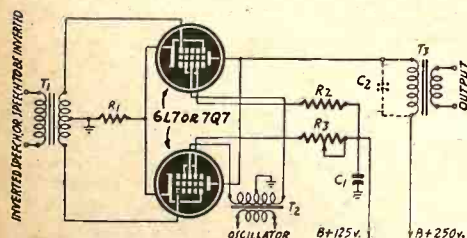
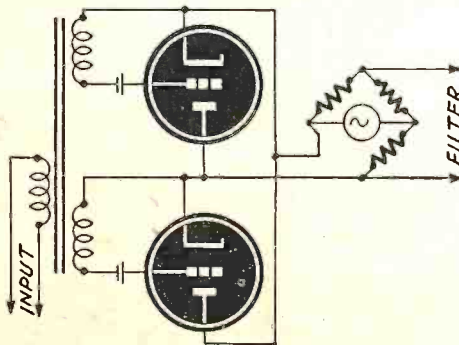

Fig. 1—A practical speech inverter circuit.
Fig. 2—A resistance-bridge type modulator.
The directivity in the vertical plane of a vertical antenna is determined in part by its natural wave length. Current distribution in straight single-wire vertical radiators of various heights is shown in Fig. 1. In broadcast work it is desirable to have as much of the radiated power as possible be emitted as ground wave, with an absolute minimum of high-angle radiation. This will increase the primary service area, and reduce fading and interference at remote points. Practical experience has proved that best results are obtained when the radiator is either approximately one-quarter wave length or slightly over one-half wave length.
indicate any factor of the antenna power, but is an arbitrary figure which demonstrates that the effective signal increases with the antenna height. This fact holds true up to the optimum condition, but beyond that the second lobe of the standing wave would be in phase opposition with that of the first half-wave section, as shown in Fig. 1 (D).
Fig. 1, left—Current distribution on various heights of straight-wire vertical broadcast antennas. Fig. 2, right—Current distribution on several types of broadcast towers under optimum conditions.